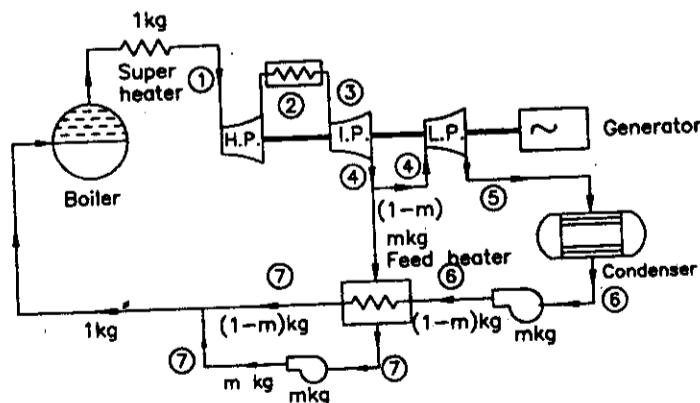

Fig. Prob. 22.16 (a).
**Solution.** The arrangement of the components of the system is shown in Fig. Prob. 22.16 (a).
The expansion and reheating processes of steam passing through the different components are shown on  $h-s$  diagram as shown in Fig. Prob. 22.16 (b).